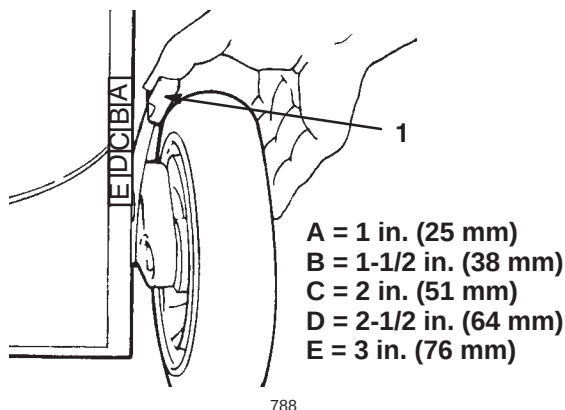

Figure 13
4. Squeeze the cutting height lever toward the wheel and move it to the corresponding letter on the lawn mower housing (Fig. 13).